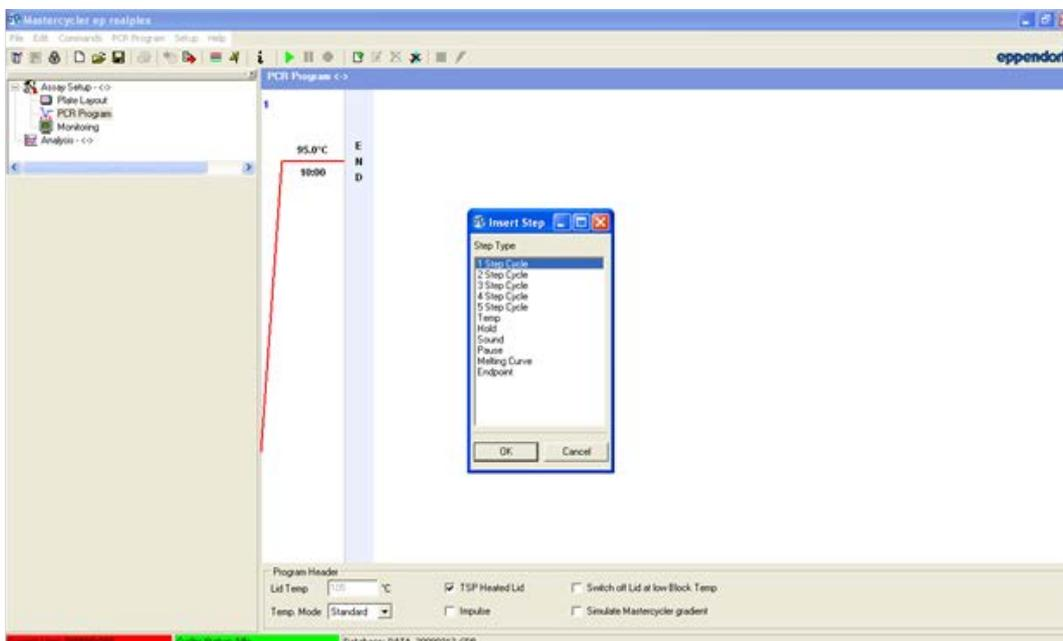

Figure 5. Adding 2-step cycle.
5. Right-click on “END.” Select “Add Step”, then select “2 Step Cycle” and click “OK” (Figure 5).